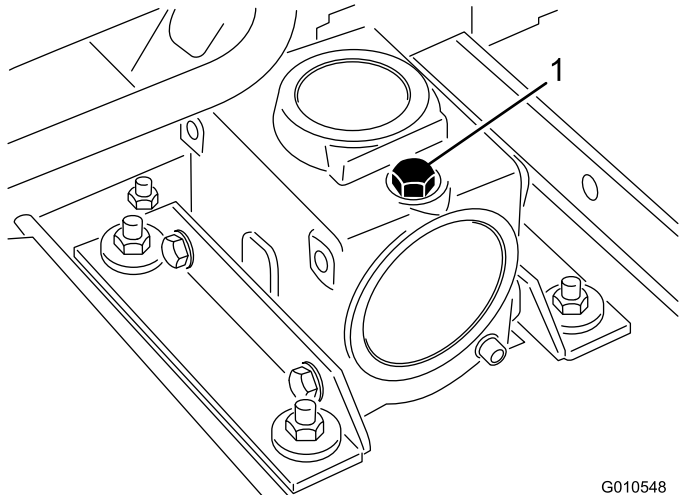

Figure 31
3. Remove the dipstick/fill plug from the top of the gearbox (Figure 31) and ensure that the lubricant is between the marks on the dipstick. If the lubricant level is low, add SAE 80-90 weight gear lube until the